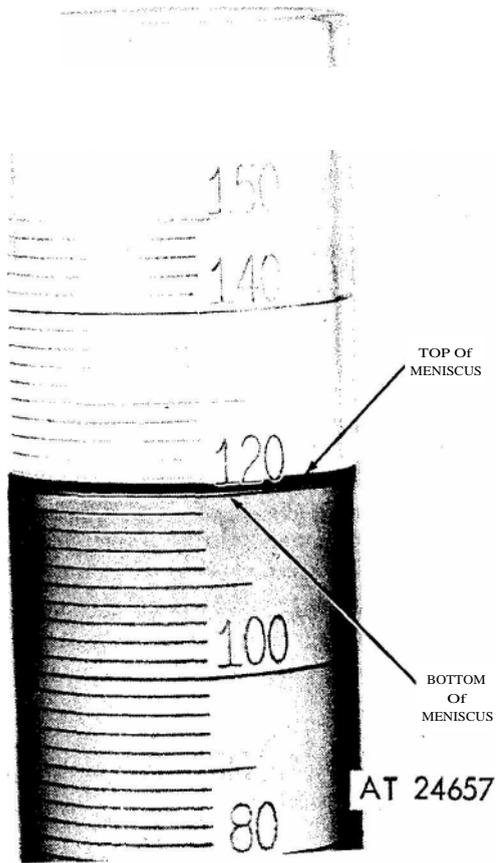

Figure 5. Checking fuel output.
1. Operator Error: If the column of liquid in the vial is read at the top of the meniscus instead of at the bottom, a variation of 1 or 2 points will result. Refer to figure 5.